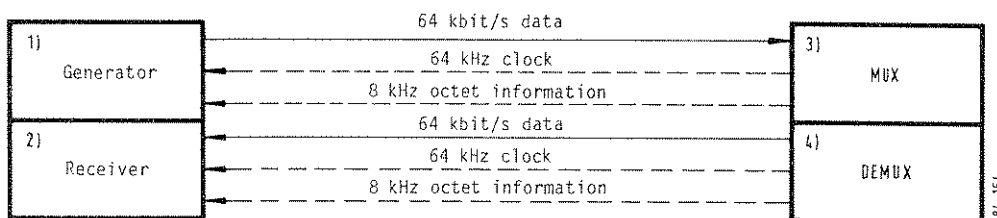

Figure 5-6 Serial 64 kbit/s interface of the PCM-4 in contradirectional setup
- 2) See fig. 5-6, item 2.
- 4) See fig. 5-6, item 4.
NB: Switch settings for receiver operation (see fig. 5-6, item 2, and fig. 5-7, item 2):
In conjunction with parameter 116 (2 Mbit/s tandem operation), MUX operation in MODE B92 is only possible with contradirectional companion signals (see Fig. 5-6, item 3).
NB: Switch settings for MUX operation with contradirectional companion signals (see fig. 5.6, item 3):
NB: Switch settings for generator operation with contradirectional companion signals (see fig. 5-6, item 1):
NB: Switch settings for DEMUX operation with codirectional companion signals (see fig. 5-6, item 4, and fig. 5-7, item 4):